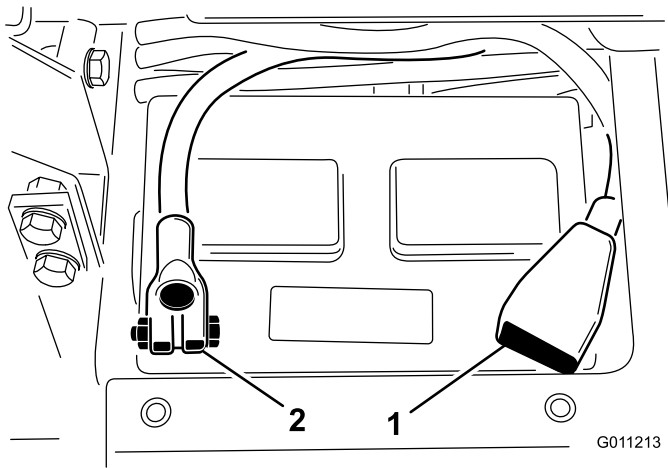

Figure 5
5. Install the positive cable (red) to the positive (+) battery terminal, and secure them with T-bolt and nut (Figure 5).
6. Install the negative cable (black) to the negative (–) battery terminal of the battery, and secure them with T-bolt and nut (Figure 5).